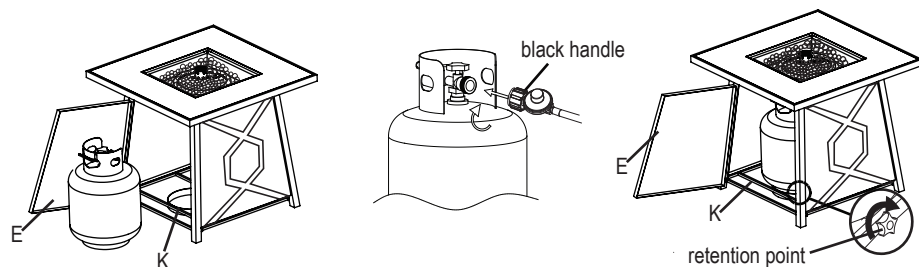

Figure 10
10. Open the door panel (E). Place the gas cylinder into the gas cylinder support (K) and connect the regulator by turning the black handle clockwise to tighten. To remove the regulator, turn the black handle counter-clockwise. Secure the gas cylinder by tightening clockwise the retention point found on gas cylinder support (K), (see Figure 10), so that the gas cylinder cannot move from side to side or fall down. The knob on the control panel is turned all the way to the "OFF" position when the fire pit is NOT in use.